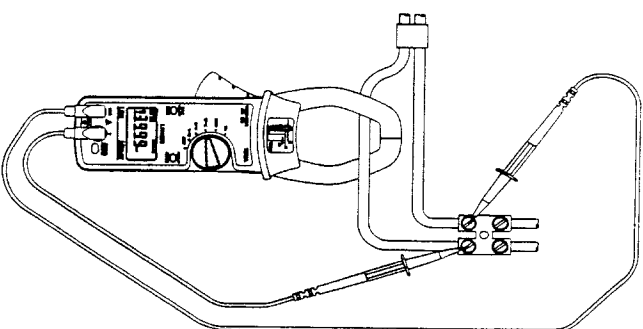

Fig. 4
- Press the trigger to open the jaws, and clamp them on the current carrying conductor, as shown in Fig. 4
- When configured to measure power (Fig. 4) with the test leads connected and the jaws clamped around a current carrying conductor, the instrument displays the frequency of the current source (providing ARMS > 10A) If ARMS < 10 0A, a volts frequency measurement will be made (providing VRMS > 10V), otherwise ---- will be displayed